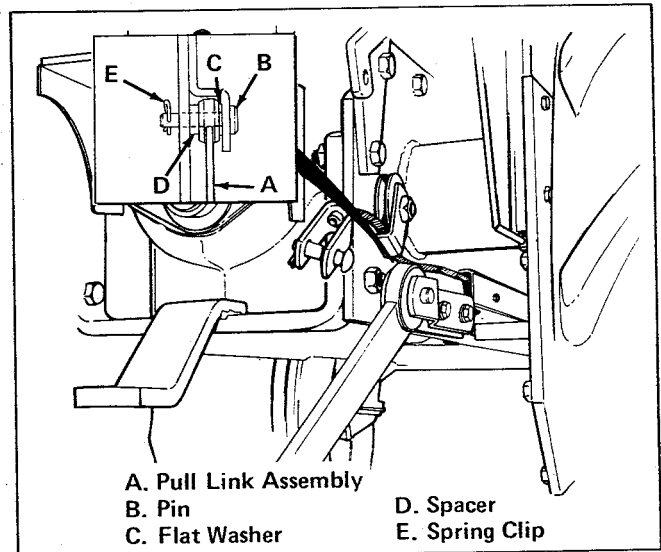

Figure 7. Install Pull Link Assembly
12. Install right-hand pull link assembly (item A, figure 7). Push pin (item B) out from pull strap towards tractor fender as far as possible. Install flat washer (item C), pull link assembly, and spacer (item D) between inside pull strap and outside tractor frame. Secure with spring clip inside tractor frame.